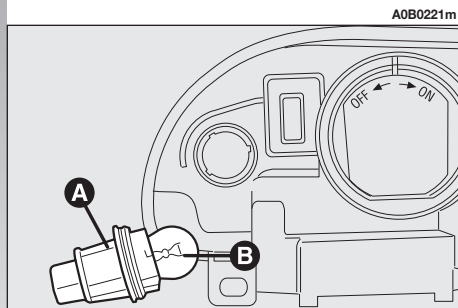

fig. 31
- Remove the bulb (**B-fig. 31**) from the bulb holder (**A-fig. 31**), pushing lightly and turning counter-clockwise.
- Replace the bulb (**B-fig. 31**).
— Refit the bulb holder (**A**-fig. 31) by making its notches coincide with the grooves in the headlight unit body and turn it clockwise.